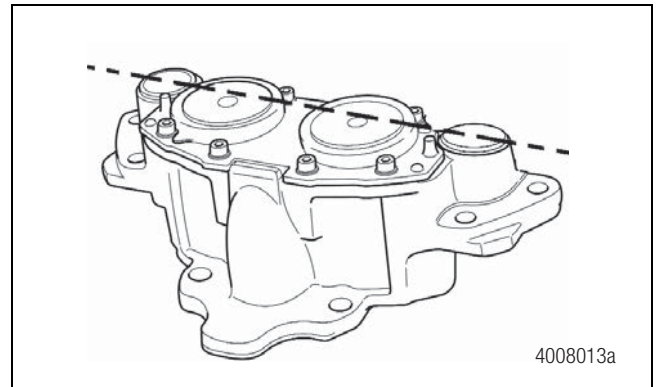
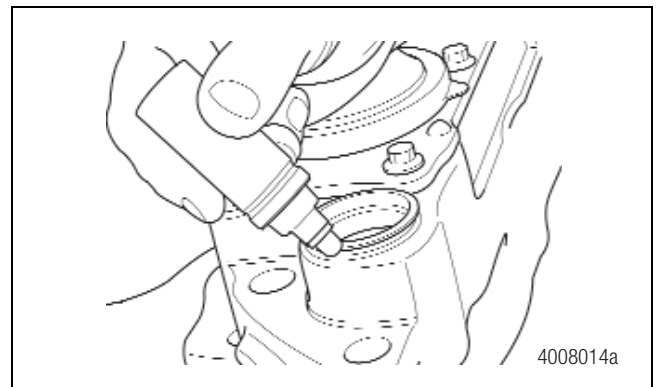

Figure 5.31
Figure 5.32
2. Before removal, check the alignment of the oval bushings and mark the housing so that the new bushings can be correctly aligned when installed. Figure 5.31 and Figure 5.32.